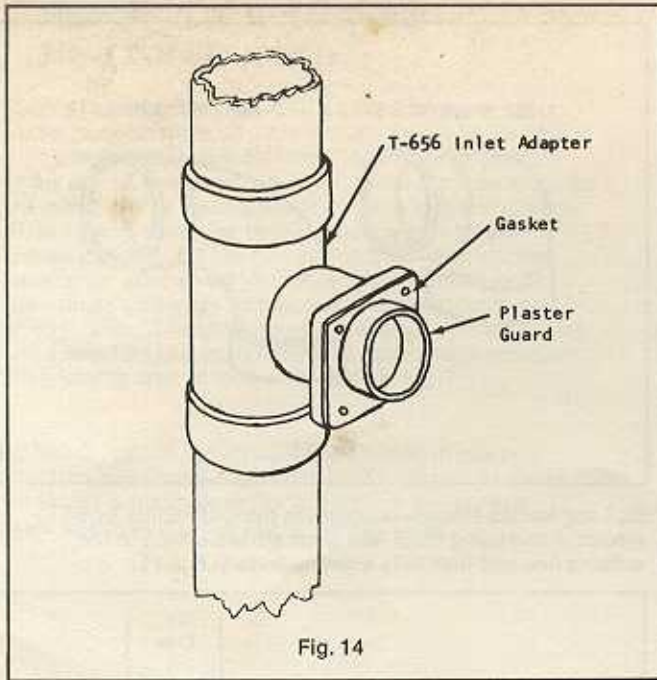

Fig. 14
(8) Using feed through flanged "T"—in a split level or multi-storied house, a lot of times your tubing will be stubbed up from underneath the floor. Then you would use a T-656 inlet adapter, to place an inlet on the first floor, and coupling straight up to the second story floor to an additional inlet. Fig. 14.